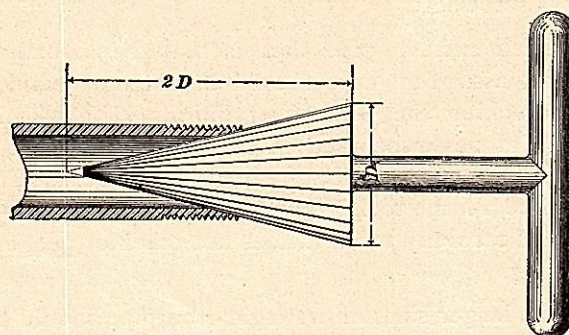

FIG. 18
**22.** **Reaming** is the process of removing the burrs from the cut ends of pipes. The tools used for this purpose are called **reamers**, and are conical in shape; if properly proportioned, the length of the reamer, or the altitude of the cone, will be about twice the diameter of the base, as shown in Fig. 18, which represents a **hand reamer**. The convex surfaces of reamers are formed into a series of sharp teeth